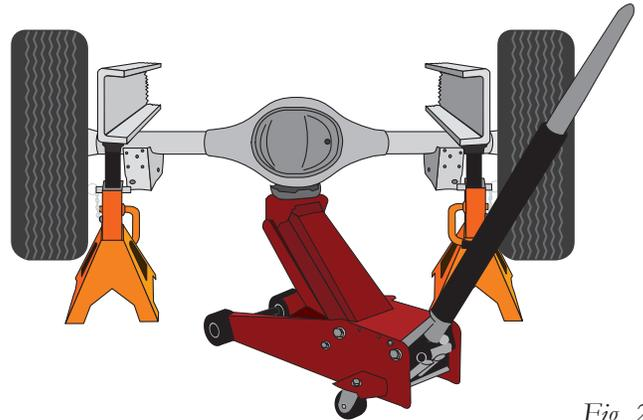

Fig. 2
1. Lift the vehicle and support the frame with safety stands. Drop the axle down low enough to later set the air springs into position between the frame and axle, then remove both wheels (Fig. 2).